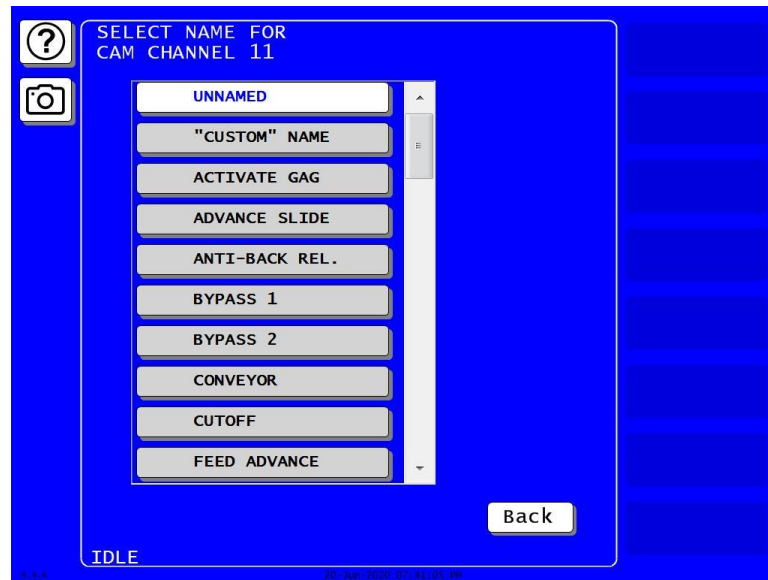

Figure 7-2. Cam Channel Name Selection Screen
2. Select a channel using the cursor keys and press ENTER. The screen showing a list of names appears, Figure 7-2. Press and move the scroll bar at the right of the list to see additional names.